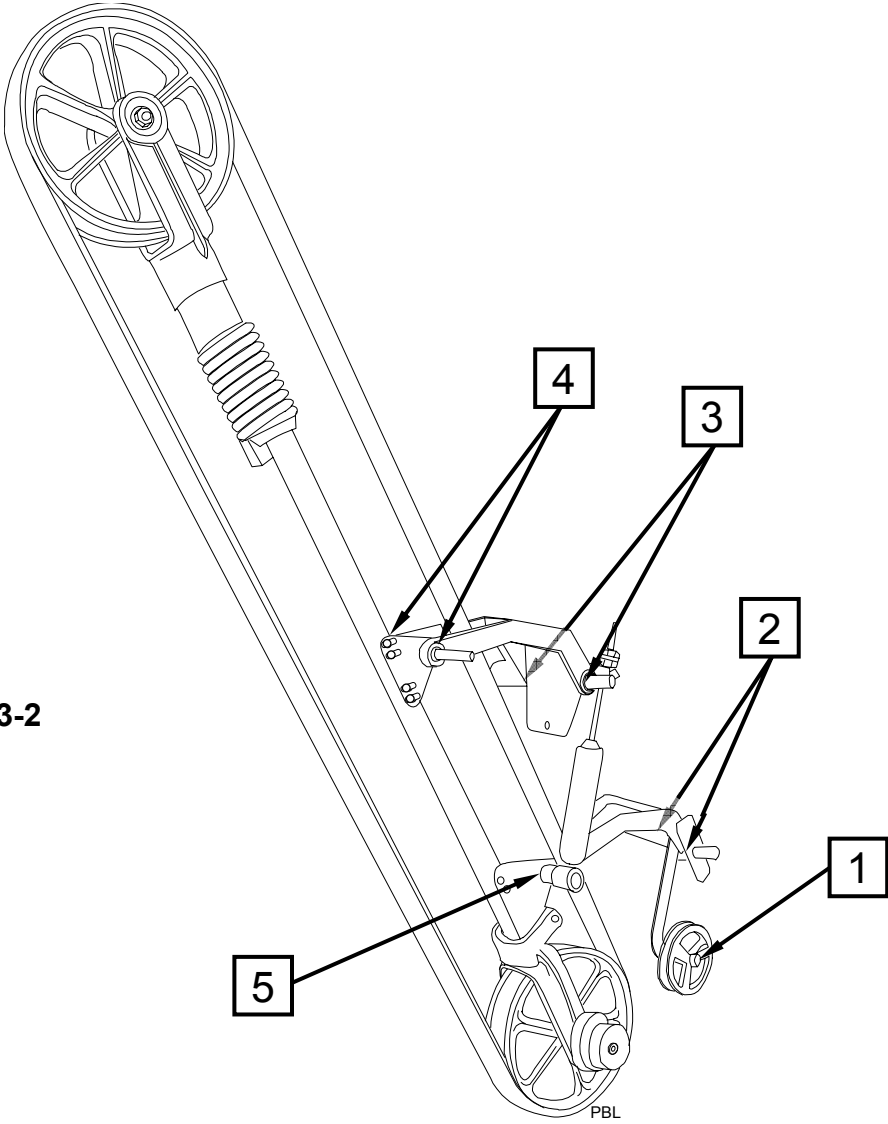

Figure 3-2
3.3.2 POSITIVE BALL LIFT - Figure 3-2